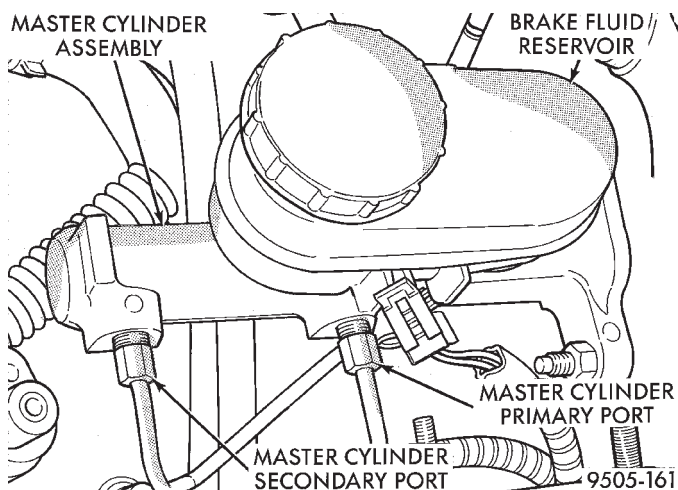
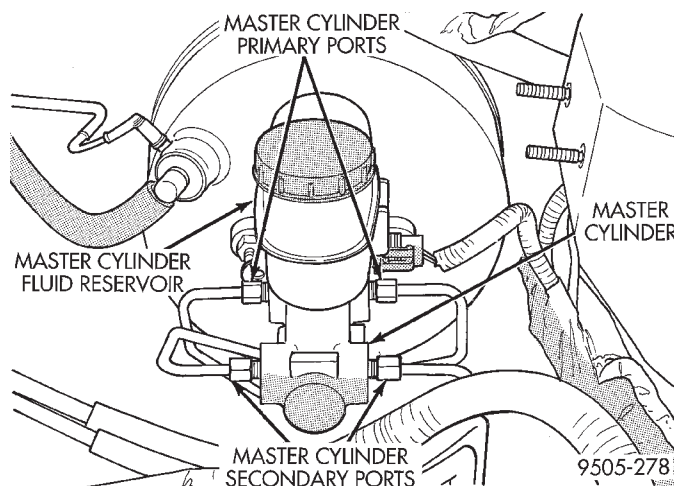

Fig. 85 Master Cylinder Primary And Secondary Ports With ABS
Fig. 86 Master Cylinder Primary And Secondary Ports With Out ABS
(2) Disconnect the primary and secondary brake tubes from master cylinder outlet ports (Fig. 85) and (Fig. 86). Install plugs at all open brake tube outlets on master cylinder assembly.